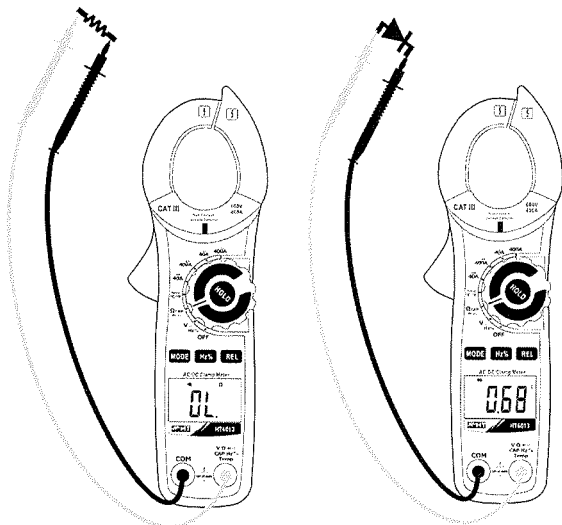

Fig. 7: Use of the clamp for continuity test and diode test
3. Insert the red cable into input terminal **VΩ** \rightarrow \rightarrow CAP Hz % Temp and the black cable into input terminal **COM** and carry out the continuity test of the object to be measured (see Fig. 7 – left side). A buzzer sounds when the measured value of resistance is lower than 30Ω
5. Connect the red lead to the anode of the diode and the black lead to the cathode in case direct polarization measurement is carried out (see Fig. 7 – right side). Invert the position of the leads in case reverse polarization measurement is carried out.